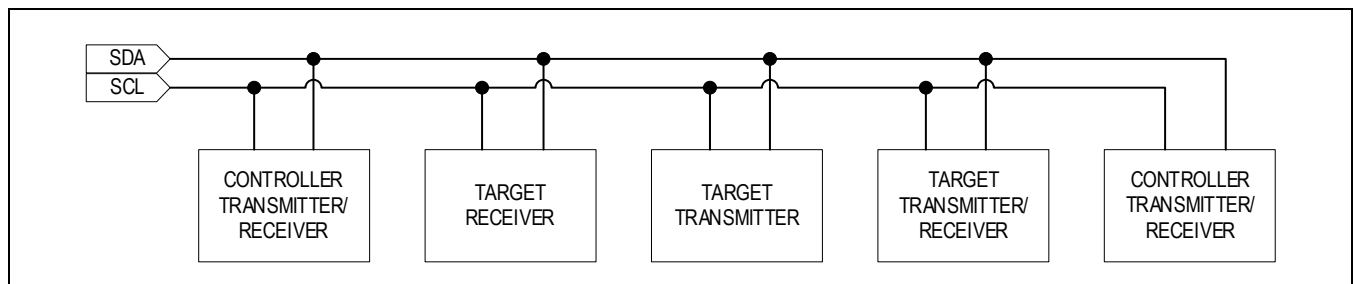

Figure 6. Functional Logic Diagram for Communications Controller
*Figure 6* shows an example of a typical I2C system. A device on the I2C bus sends data to the bus is called a transmitter. A device that receives data from the bus is called a receiver. The device that initiates a data transfer and generates SCL clock signals to control the data transfer is a controller. Any device that is being addressed by the controller is considered a target. When the MAX77847 I2C-compatible interface is operating, it is a target on the I2C bus, and it can be both a transmitter and a receiver.